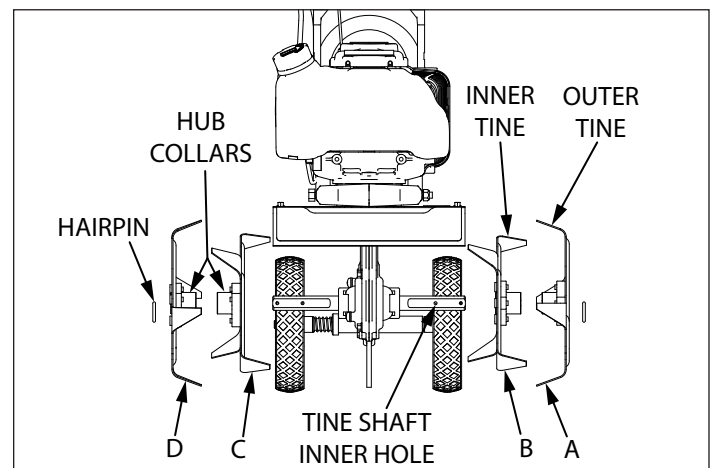

FIGURE 8
To Remove Tines (SEE FIGURE 8)
2. Slide the outside tine **A** and tine **D** onto each end of the shaft next. The tines should be installed in the correct order so that they are positioned left to right **A, B, C, D**, as viewed from the user's position on the MC440. Make sure that the hub collars on both the right and left pairs of tines face each other so that there is adequate spacing between the tine blades. **SEE FIGURE 8**